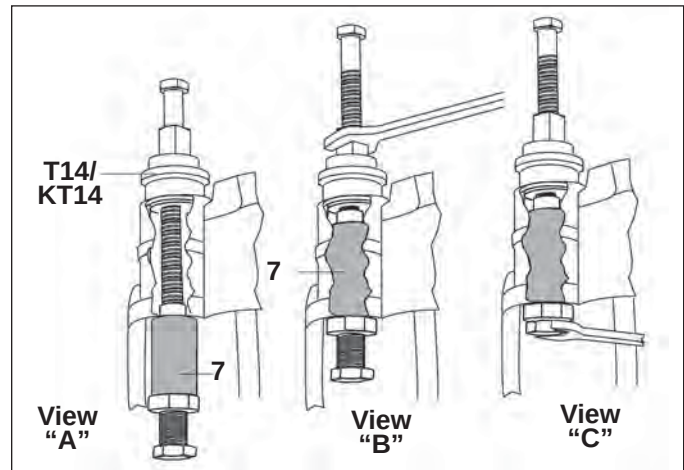

FIGURE 77 - VIEW "A" AND "B": DRAW THE BRASS BUSHING INTO POSITION. VIEW "C": LOCK THE BUSHING INTO POSITION
5.6.22 With the dimpling tool (T16) in position, tighten the screw in its base until it contacts the dimpling screw housing. The movement of this screw forces three points outwards, leaving indentations in the brass bushing. See Figure 77, view "C".